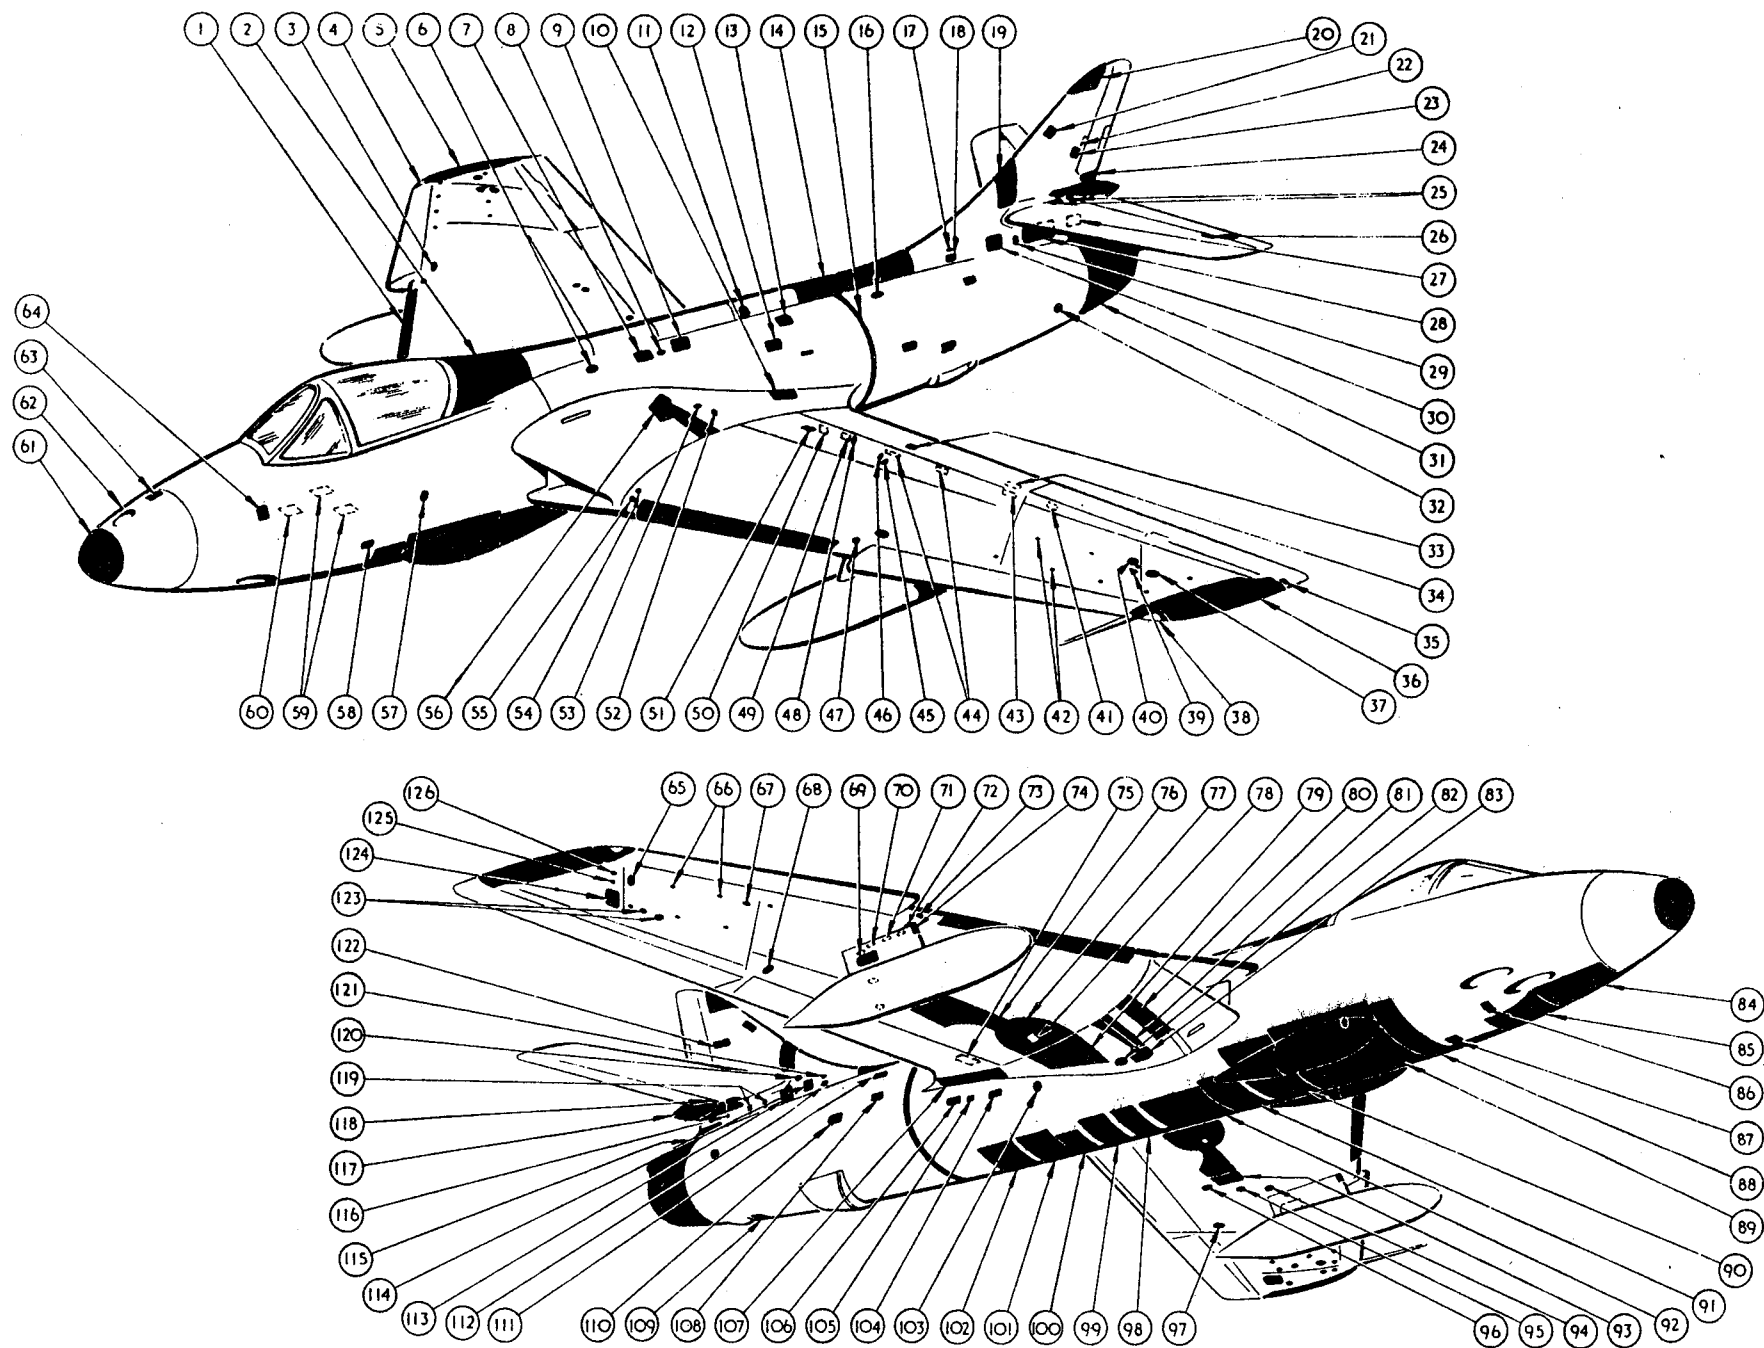

Fig. 3 Access Panels
## KEY TO FIG.3 (ACCESS PANELS)
7. The positions of the access doors and removable panels are shown in fig.3, the components to which they give access being given in the key. When handling the doors and panels, care should be taken to ensure that they are not damaged or distorted in any way. When re-fitting them, ensure that they fit flush with the surrounding surface and that they are secure and effectively locked. Screws removed from access panels must be replaced by screws of the same length, after first ensuring that fouling has not already taken place, otherwise damage to components, pipe lines or structure in the vicinity of the panel may occur.